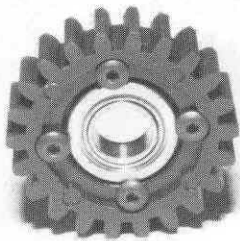

Fig. 47a
□ **Fig. 47a** Install the screws in the gear.